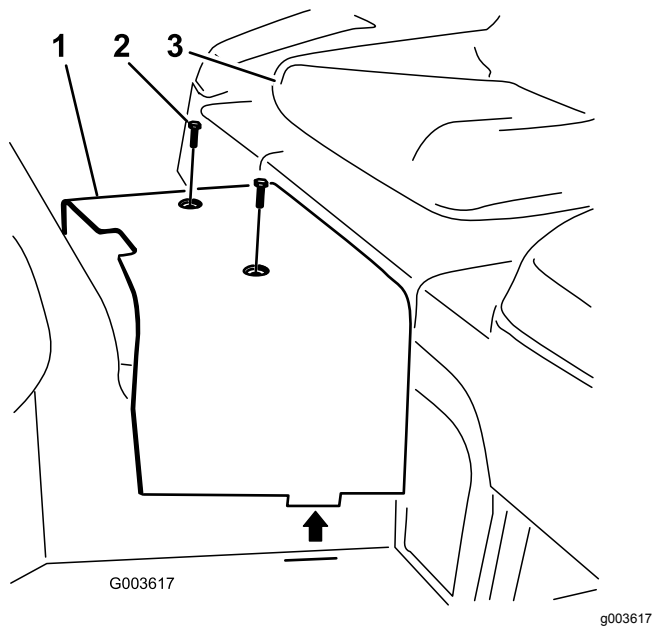

Figure 7
7. Remove the 2 screws securing the center shroud to the frame (Figure 7). Remove and retain the shroud.